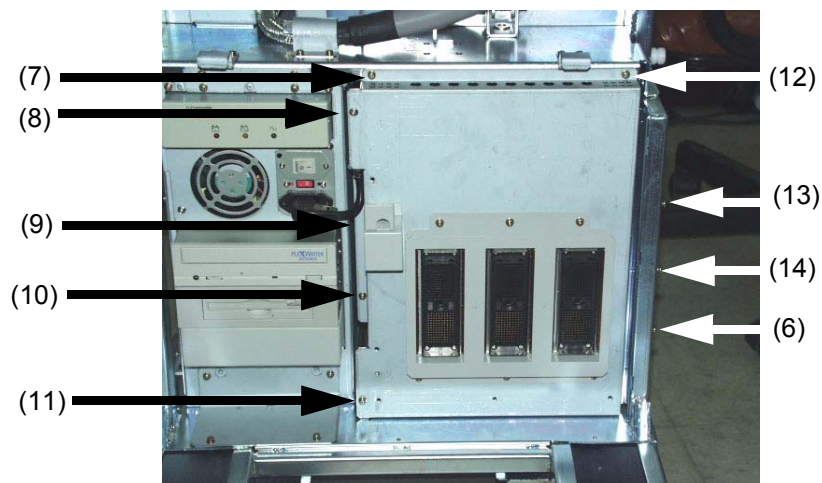

Figure 8-113 Removing the RLY board Cover
- 4.) Unscrew nine (9) screws (6-14) to remove the RLY Board Cover. Refer to Figure 8-113 on page 8-63 .